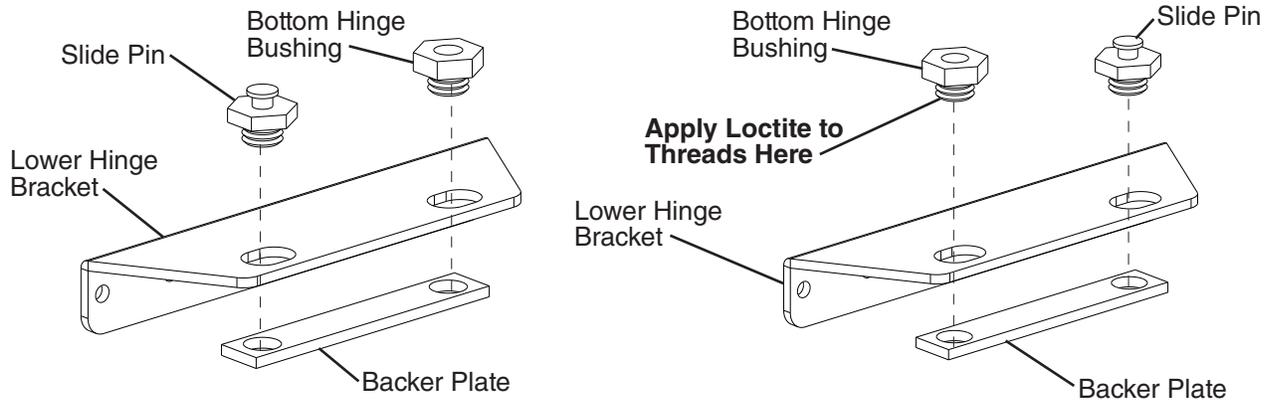

Fig. 44
- 12) Remove the hardware from the lower hinge bracket. Apply Loctite Thread Locker Blue 242 or 243 to the bottom hinge bushing threads then place it and the slide pin in place on the lower hinge bracket. See Fig. 44. Note: Make sure the fittings are properly aligned, then start the connection by hand to ensure that it is not cross threaded. Just snug the fittings, do not tighten the fittings at this time.